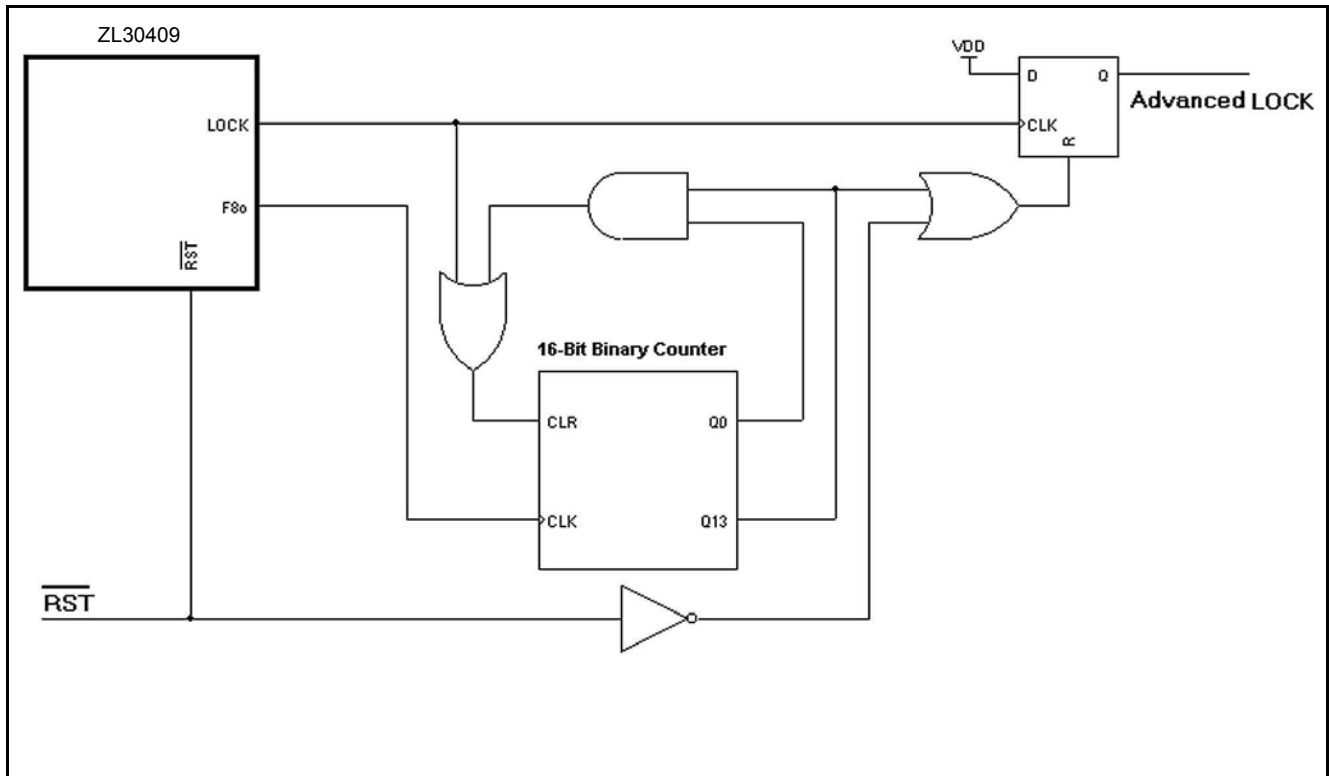

Figure 12 - Digital Lock Pin Circuit
A digital alternative to the RC-time-constant circuit is presented in Figure 12. The circuit in Figure 12 can be used to generate a steady lock signal. The circuit monitors the ZL30409's LOCK pin, as long as it detects a positive pulse every 1.024 seconds or less, the Advanced Lock output will remain high. If no positive pulse is detected on the LOCK output within 1.024 seconds, the Advanced LOCK output will go low.
* See Figure 12.